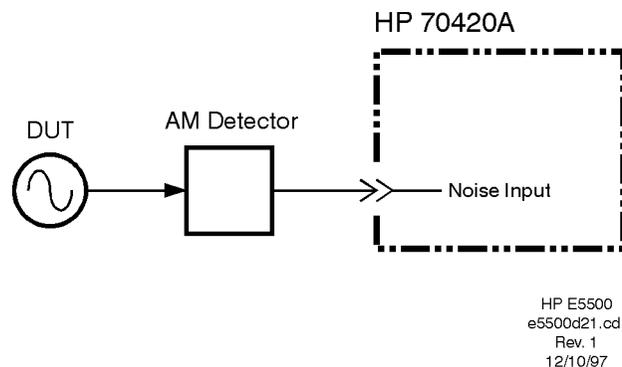

Figure 12-11 Double-sided Spur AM Noise Measurement Setup Method 1, Example 1
1. Connect circuit as shown in Figure 12-11, and tighten all connections. If the Agilent/HP 70420A Option 001 or Agilent/HP 70427A is available, use one of the connection diagrams described in “AM Noise Measurement Block Diagrams” on page 12-3.